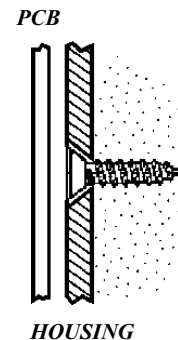

Figure 2:
6. Mount the back cover to the wall using two screws and replace the PCB. Use ISO 7050 (ST3.5 x 22) or similar countersunk screws so that the screw head will not touch the PCB – see *Figure 2*.